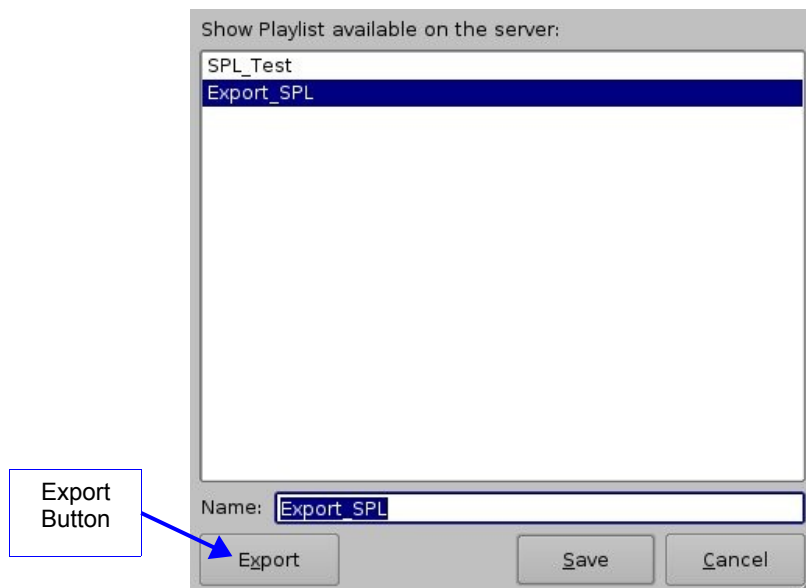

Figure 162: Saving Show Playlist Window
- The user will be promoted to the SPL Saving Window (Figure 162).